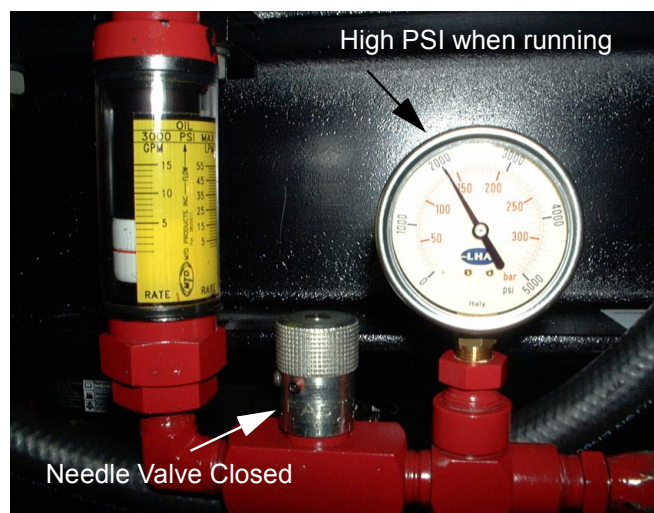

Figure 1
**IMPORTANT:** When instructed to close the needle valve, extreme caution must be exercised. Leaving the needle valve closed can blow seals and damage the log splitter. See Figure 1.